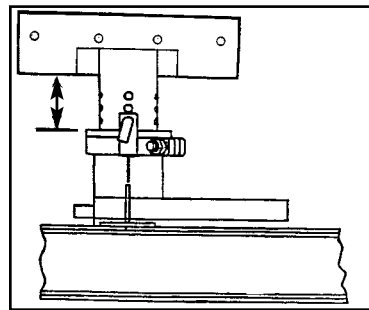

Figure 8
6. Adjust height of crossbar (if needed) by raising or lowering anchoring stand tube. (See Figure 8.)